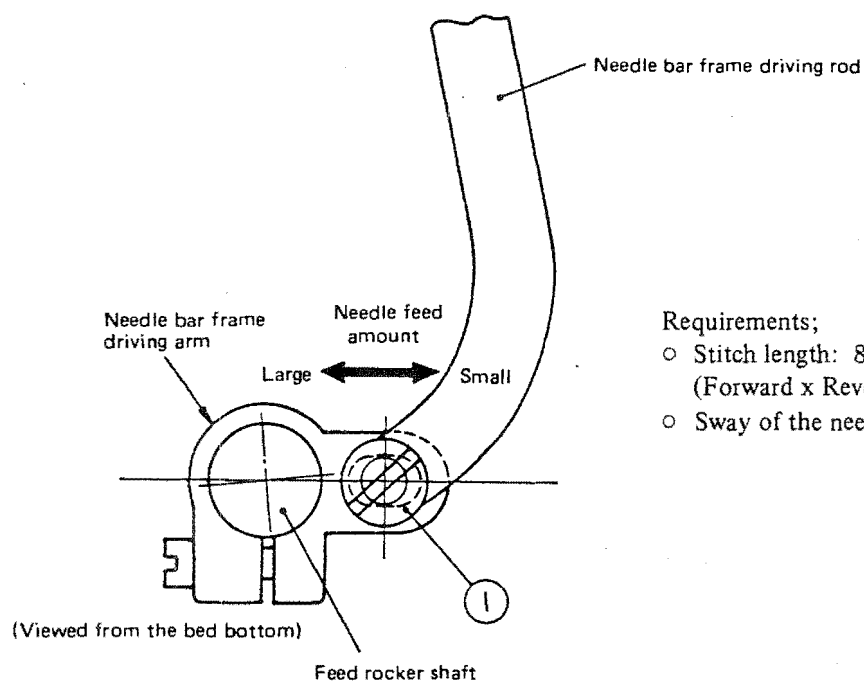

Fig. 25
<ol style="list-style-type: none"> 1. Set the stitch dial to the maximum. 2. Loosen screw ① shown in Fig. 25, and move the needle bar frame driving rod to make adjustment. 3. Tighten screw ①, and turn the handwheel by hand to check the sway of the needles. Position the needle bar frame driving rod so that the needle sway is minimized. Then fix the rod to the needle bar frame driving arm. <p>(Note) 1) After this adjustment, the position of the needle center with respect to the needle feed slots must be readjusted.</p> <p>2) The specified distance $14.2 (0.559'') \pm 0.1 (0.04'')$ mm between the presser bar and needle bar is also disturbed in making the above adjustment. Readjust the distance.</p>	<ul style="list-style-type: none"> ○ Needle breaking may occur. ○ Stitch skipping may occur.